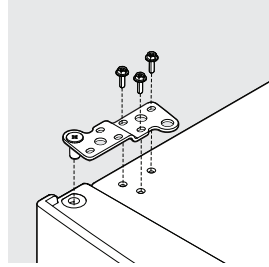

Figure 13
13. For models without the hinge cover, flip the hinge cover over and attach it using a 5/16 in. socket (see Figure 13).